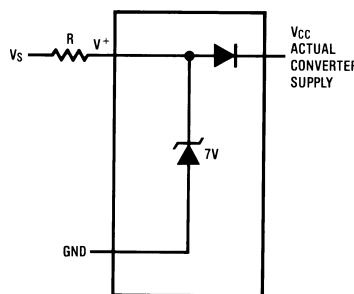

Figure 24. An On-Chip Shunt Regulator Diode
A unique feature of the ADC0838-N and ADC0834-N is the inclusion of a zener diode connected from the V^+ terminal to ground which also connects to the V_{CC} terminal (which is the actual converter supply) through a silicon diode, as shown in Figure 24⁽¹⁾.
- (1) Internal zener diodes (6.3 to 8.5V) are connected from V^+ to GND and V_{CC} to GND. The zener at V^+ can operate as a shunt regulator and is connected to V_{CC} via a conventional diode. Since the zener voltage equals the A/D's breakdown voltage, the diode insures that V_{CC} will be below breakdown when the device is powered from V^+ . Functionality is therefore ensured for V^+ operation even though the resultant voltage at V_{CC} may exceed the specified Absolute Max of 6.5V. It is recommended that a resistor be used to limit the max current into V^+ . (See Figure 24 in Functional Description)